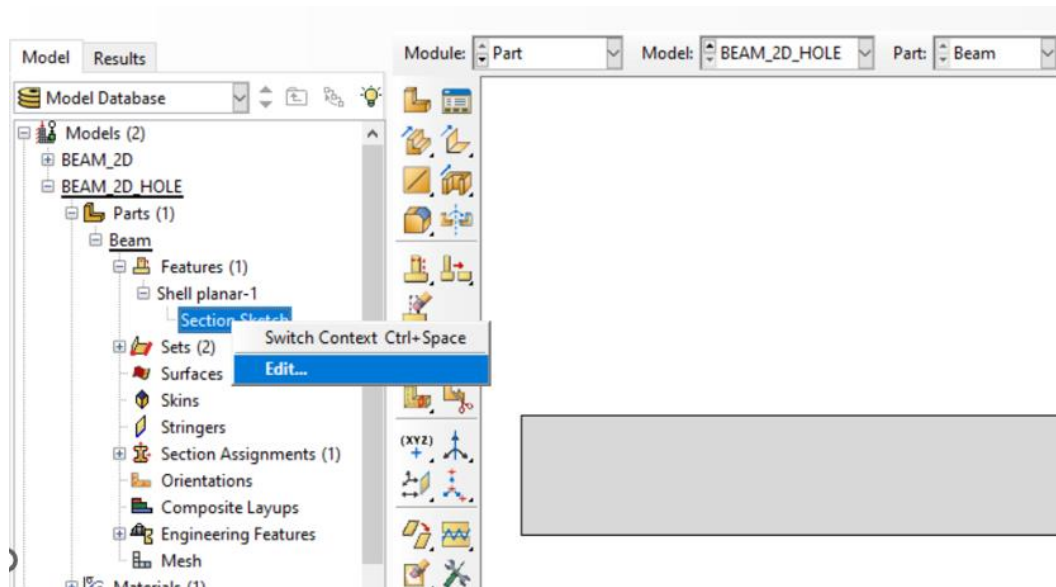

Figure 3-4 – Edit section sketch to make a hole in the beam.
2. You can make any changes to the sketch by right-clicking on **Section Sketch** and choose **Edit**. See Figure 3-4. See also 7 in Section 2.1.